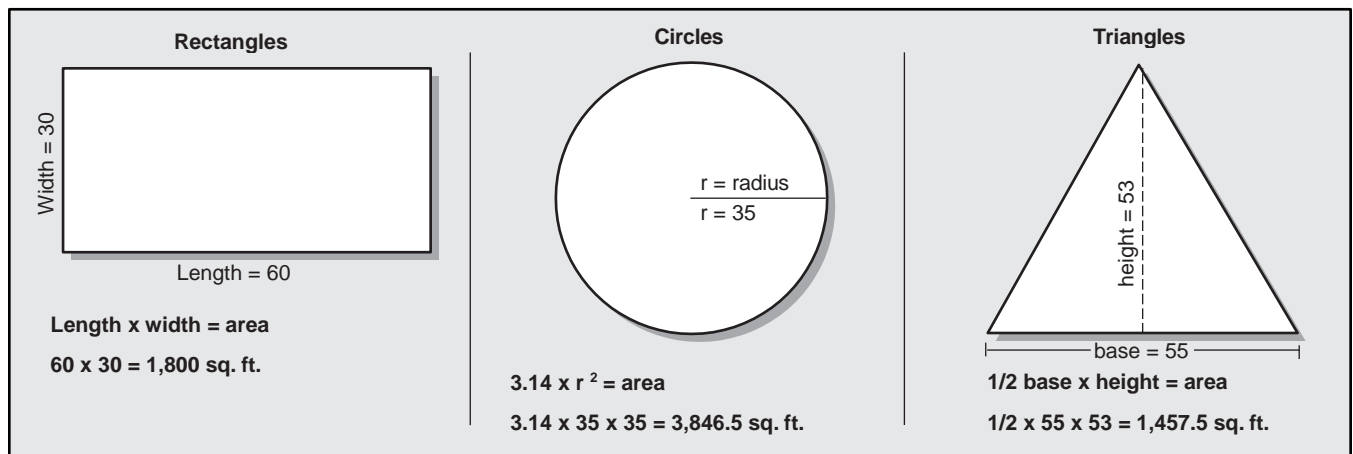

Figure 8. Area measurements.
3. Calculate the area (See Figure 8, next page), in acres, that the sprayer covered in one minute (distance traveled x boom width). You did this in a previous problem.